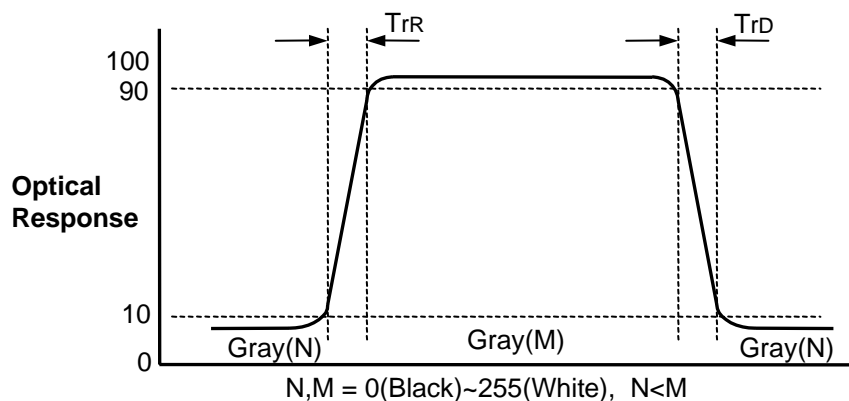

FIG. 3 Response Time
4. Response time is the time required for the display to transition from G(N) to G(M) (Rise Time,  $Tr_R$ ) and from G(M) to G(N) (Decay Time,  $Tr_D$ ). For additional information see the FIG. 3. ( $N < M$ )